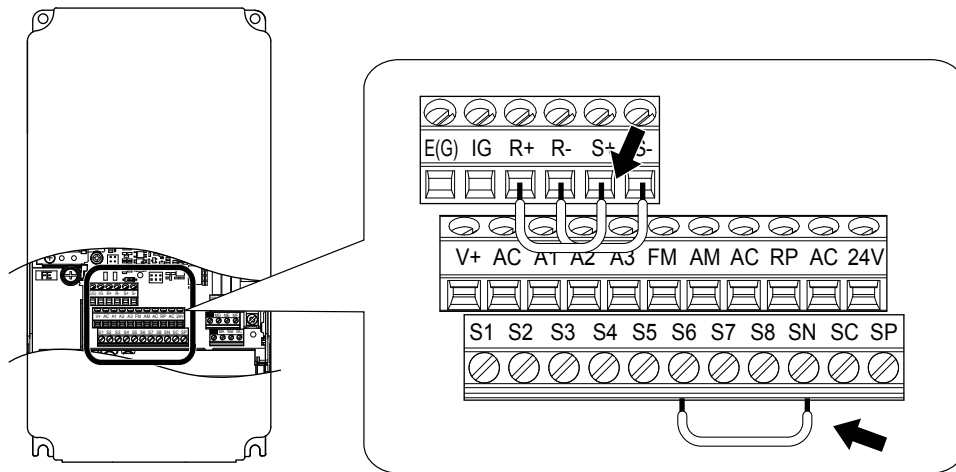

Figure C.7 Terminal Connections for Communication Self-Diagnostics
5. With the power off, wire the drive as shown in Figure C.7, connecting terminals R+ and S+, R- and S-, and S6 and SN.